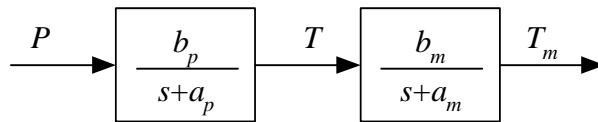

Figure 12.10:
1. Figure 12.10 shows the block diagram.